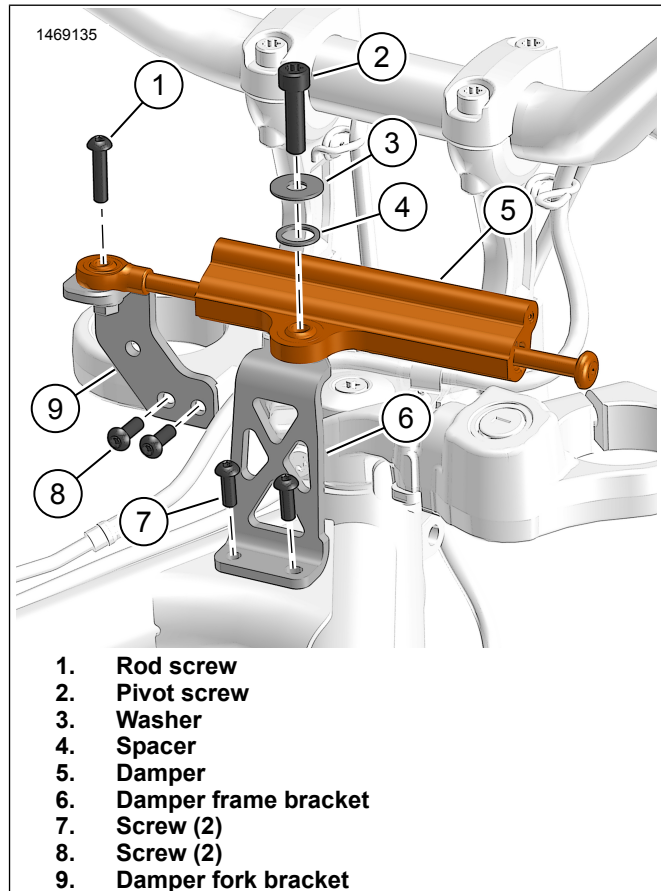

Figure 2. Steering Damper
1. See Figure 2. Install damper fork bracket.
- a. Position damper fork bracket (9).
- b. Install screws (8). Tighten.